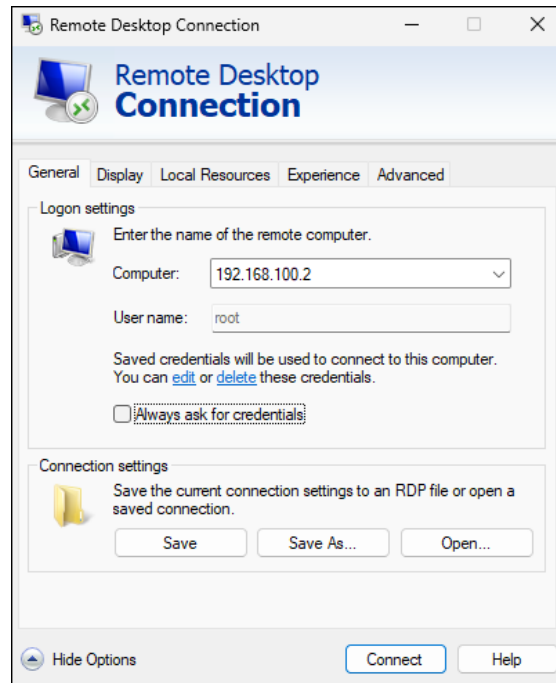

Figure 5-1 Remote Desktop Connection
- STEP 4:** Once Remote Desktop is open (Figure 5-1), enter the IP address of the UEIPAC Intel into the entry box for “Computer”. Remember, the factory default IP for NIC1 is 192.168.100.2 and for NIC2 is 192.168.101.2. Make sure that the host Ethernet address falls within the same subnet for the NIC that is connected.